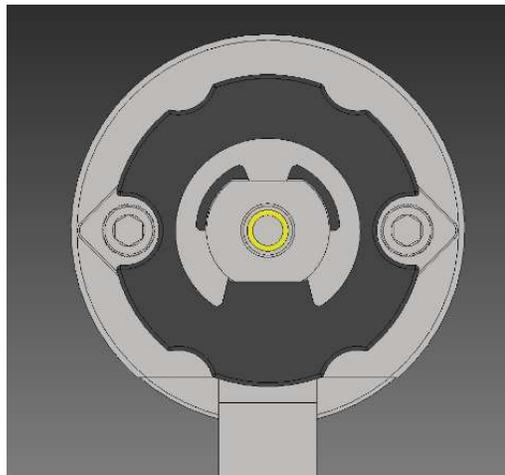

FIGURE F. 1. - KNOB ORIENTATION
1. Viewing the valve from the top, orient the knob so that the screw heads are visible through the knob fluting (see Figure F.1.)